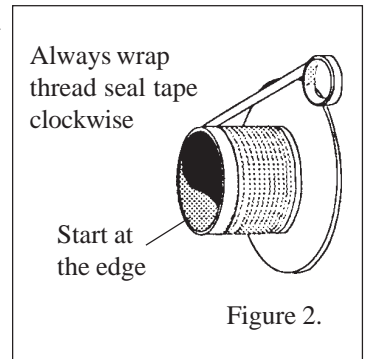

Figure 2.
3. Use the thread seal tape provided. Snugly wrap the threaded wall flange in a clockwise direction (as viewed from the back) starting at the edge of the threads; see Figure 2. Work towards the flange lip (overlapping 1/2 of the tape width with each wrap) then back towards the starting point.